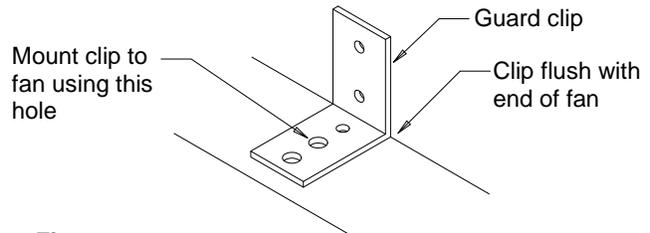
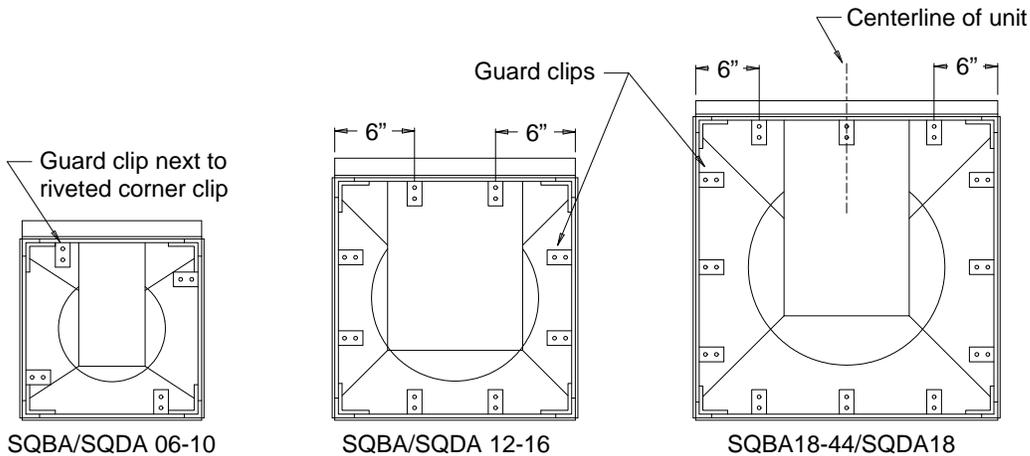

Figure 6.
Figure 7.
**Outlet guard installation.** The clips mount with the leg with 3 holes in it against the fan and the other leg of the clip flush with the outlet end of the fan. Position the clips as shown in Figure 7 (depending upon fan size). Using the clip as a template, mark and drill a 9/32" dia. hole at each clip as shown in Figure 6. Bolt the clips to the fan using a 1/4" bolt, lock washer and hex nut at each location. Tighten the hardware securely. Using a 1/4" self-tapping screw and a large 1/4" flat washer at each location, fasten the guard to the guard clips.